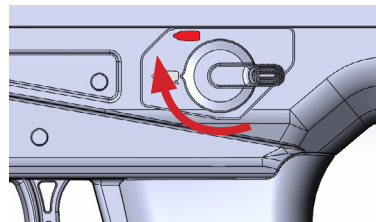

Fig. d-1
3. When on target and ready to fire, rotate the safety selector switch to "Fire." (Fig. d-1)